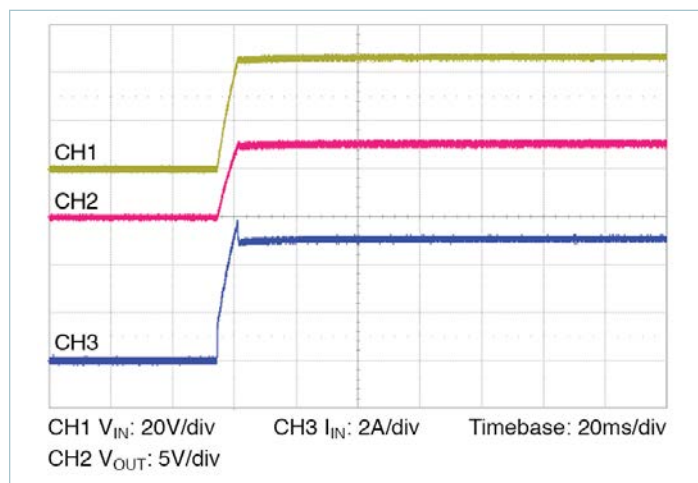

Figure 13 — Start up from application of V_{IN} ; V_C pre-applied $C_{OUT} = 2300\mu\text{F}$
- **Normal operation (VC applied prior to V_{IN}):** In this case the controller is active prior to ramping the input. When the input voltage is applied, the VTM module output voltage will track the input (See Figure 13). The inrush current is determined by the input voltage rate of rise and output capacitance. If the VC voltage is removed prior to the input reaching 26V, the VTM may shut down.